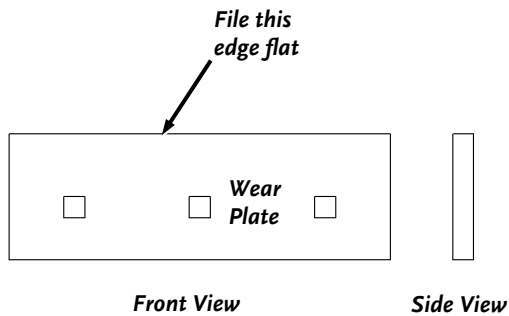

Figure 40
2. File the edge of the Wear Plate to take out any nicks and to square rounded edges (**Figure 40**).